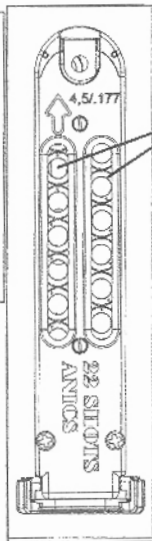

Fig.12
2.3.1 Move the empty container into position in front of the two oval openings, located under engraved "arrow", following the direction of the "arrow", with the help of a pusher (Fig. 12);
- Move the containers following the "arrow" and align them with an oval opening (Fig. 12);